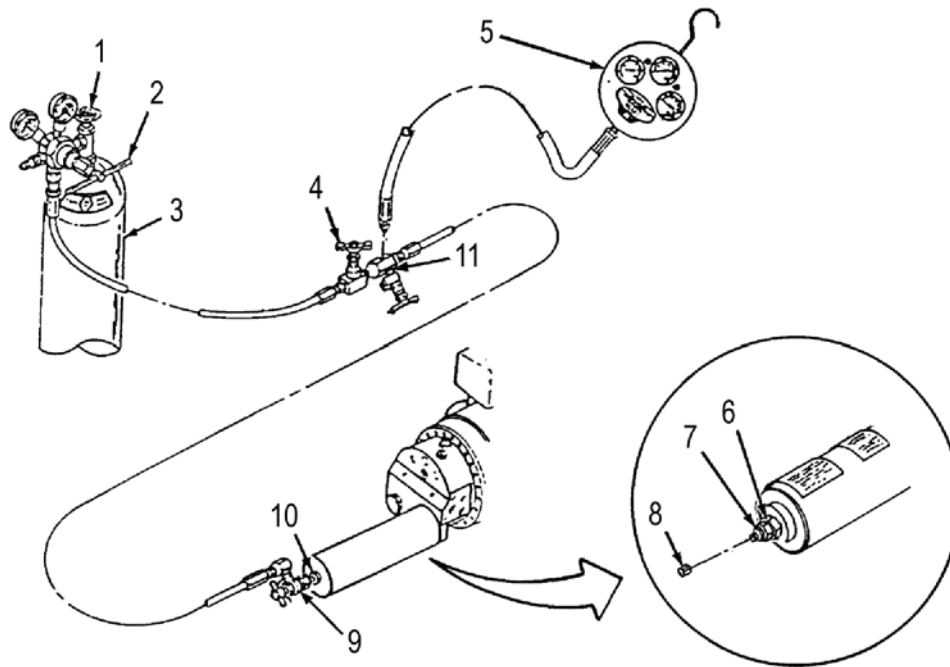

Figure 68. Actuator Accumulator Charging
- Adjust regulator valve (Figure 68, item 2) on nitrogen tank (Figure 68, item 3) to 800-900 psi (5,516-6,206 kPa).
- Open shutoff valve (Figure 68, item 4). Read pressure measuring device (Figure 68, item 5).
- When pressure reaches 800-900 psi (5,516-6,206 kPa), close shutoff valve (Figure 68, item 4), nitrogen tank valve (Figure 68, item 1), and accumulator charge valve (Figure 68, item 10).
- Wait 15 minutes and open accumulator charge valve (Figure 68, item 10). Read pressure measuring device (Figure 68, item 5) to determine if accumulator can retain the charge.
Tighten nut (Figure 68, item 7) on charge valve (Figure 68, item 10). Close nitrogen tank valve (Figure 68, item 1). Back off regulator valve (Figure 68, item 2), open bleed valve (Figure 68, item 11), and bleed hose pressure to 0 psi. Remove adapter valve (Figure 68, item 9) from charge valve (Figure 68, item 10). Remove pressure measuring device (Figure 68, item 5) from bleed valve (Figure 68, item 11) on charging harness. Install charge valve cap (Figure 68, item 8) on actuator accumulator (Figure 68, item 6).